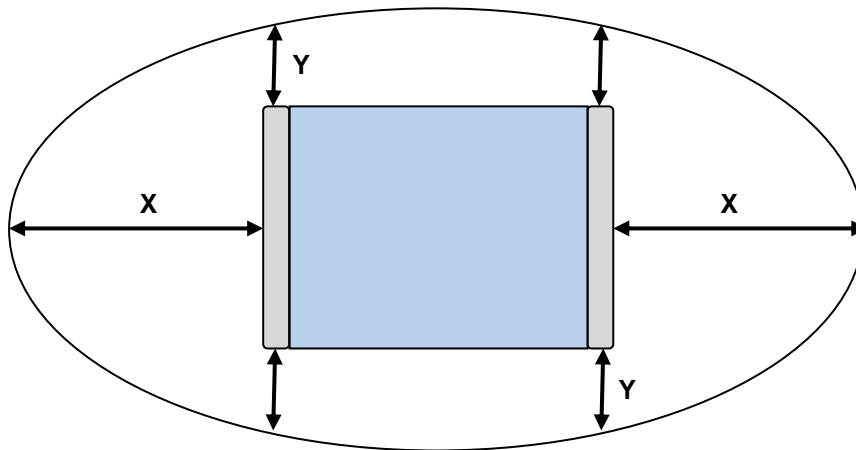

Fig. 11: Top view, detection area outside of the antenna gate
- Note that the entire reading area of the antenna gate is larger than the three-dimensional area shown in the drawing ( Fig. 11). This means there are tag orientations in which the tag can be detected outside the reading area.